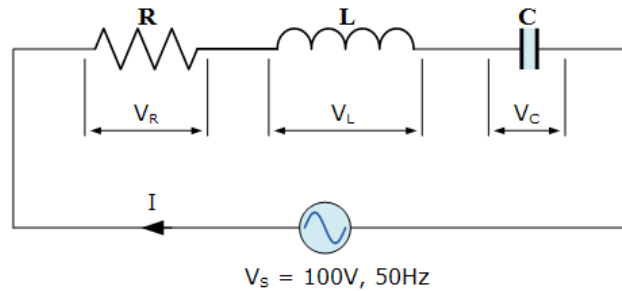

Figure 12: Series RLC circuit
- Write a BASIC program which calculate the total Impedance (in polar form) of the series RLC circuit shown in figure 12.